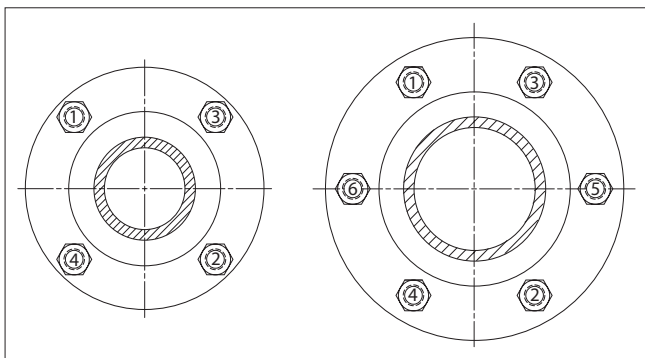

Fig. 3 Bolt Tightening Sequence
16. Place the body cap (2) over body studs (12) being careful to properly orient body cap and body as originally assembled by matching orientation marks made prior to disassembly. Take care not to damage body gasket (65) or seat (7) during this operation.
17. Lubricate the threads and face of nuts (16) with NeverSeez® or equivalent. Install nuts (16) on body studs (12) so that material identification marks will be visible after tightening. Tighten sequentially as shown in the diagram (**Figure 3**), to the recommended torques as shown in the torque chart (**Table 3**).